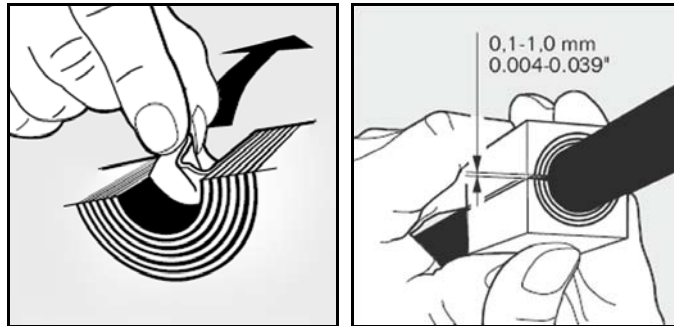

Figure 9-6. Adapting a Module to the Cable Size, Checking the Gap
- These are dense foam blocks surrounding pre-cut half-sleeves that can be peeled away to match the diameter of the cable to be sealed. See Figure 9-6.